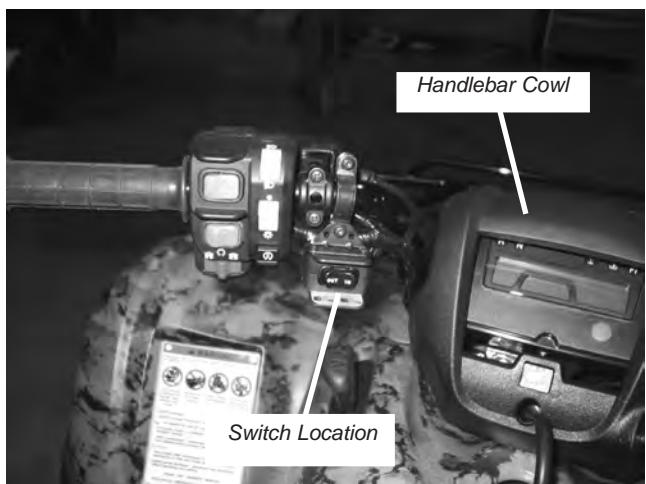

Figure 28 Handlebar Switch Location
- b. Mount the winch switch in the location shown in figure 28. The recommended location is on the bottom of the left side of the handlebars.